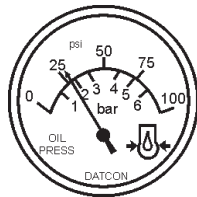

Figure 47. Oil Pressure Gauge
12. The engine oil pressure gauge (Figure 47) will indicate the oil pressure (kg/cm²) of the engine. Under normal operating conditions the oil pressure is approximately 41 ~ 71 psi.